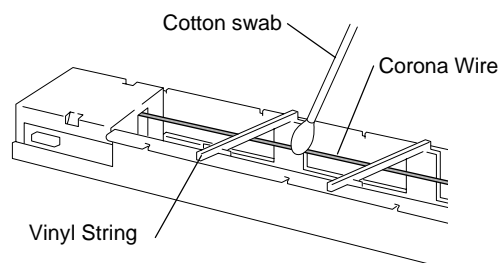

Fig.6-6
- 5) Clean the corona wire and the inside of the charger case with a cotton swab. (Fig.6-6)